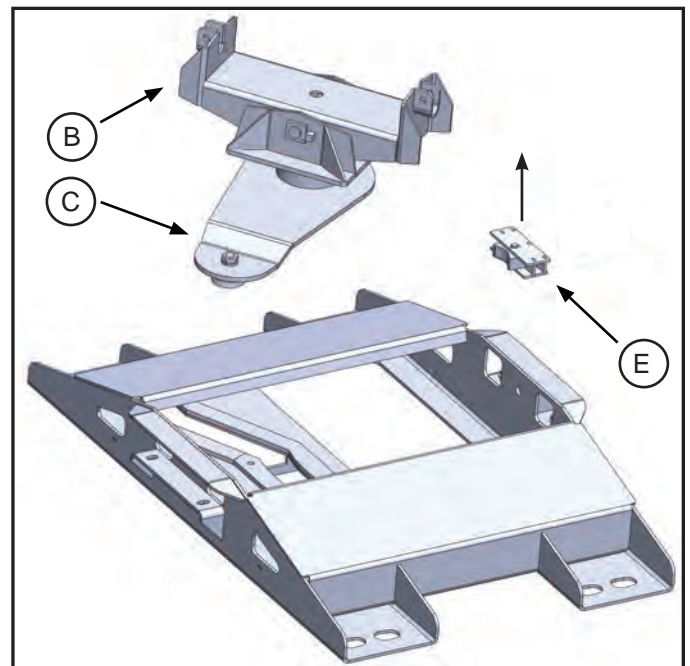

Figure 3
5. Remove the Forward Shaft Stop Bracket assembly {E} from between the Way Tubes and set aside (see Figure 3).